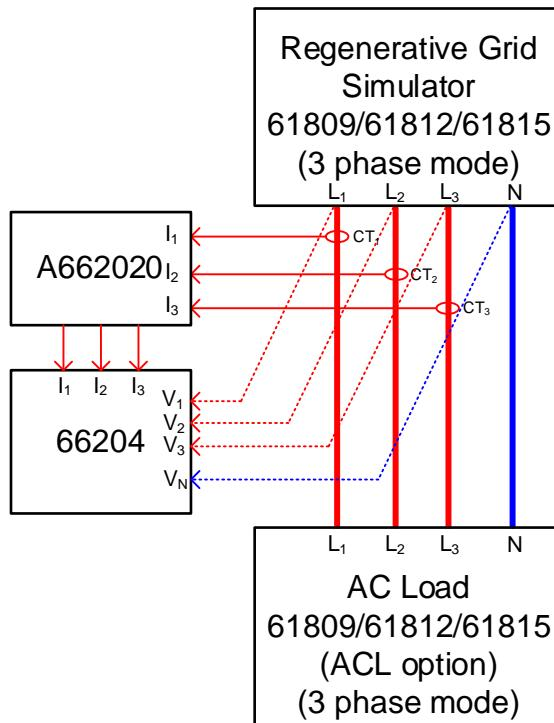

Figure 4-1
Connect the Regenerative Grid Simulator, AC Load, Power Analyzer, and Current Transducer as shown in Figure 4-1.
- Connect the Regenerative Grid Simulator, AC/DC Load, Power Analyzer, and Current Transducer as shown in Figure 4-1. Use the Power Analyzer to measure the AC Vac voltage.